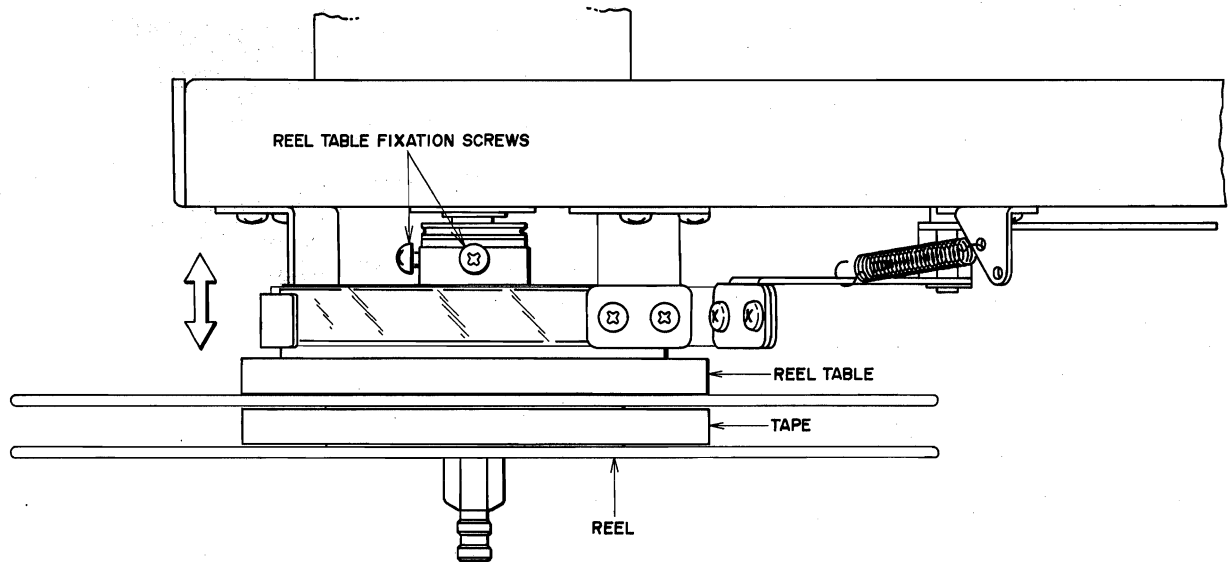

Fig. 14
6. REEL TABLE HEIGHT ADJUSTMENT (Refer to Fig. 14)